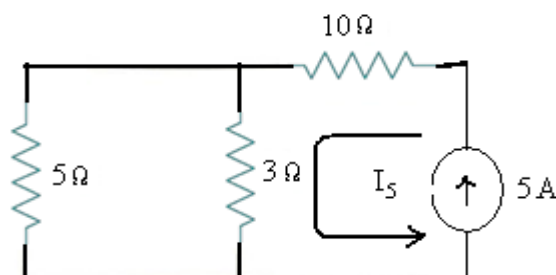

Fig.2
Solution: To find out the Norton's equivalent ckt we have to find out $I_N = I_{sc}$, $R_N = V_{oc} / I_{sc}$. Short the 1.5Ω load resistor as shown in (Fig 2), and Calculate / measure the Short Circuit Current. This is the Norton Current (I_N).
Similarly the current I_5 in the resistance of $3\ \Omega$ due to the current source of 5A alone with voltage source of 20V short circuited [as shown in the figure.2 below] is given by :
- Actually, the RMS value of a sine wave is the measurement of heating effect of sine wave. For example, when a resistor is connected to across an AC voltage source, it produces specific amount of heat (Fig 2 – a). When the same resistor is connected across the DC voltage source as shown in (fig 2 – b). By adjusting the value of DC voltage to get the same amount of heat generated before in AC voltage source in fig a. It means the RMS value of a sine wave is equal to the DC Voltage source producing the same amount of heat generated by AC Voltage source.